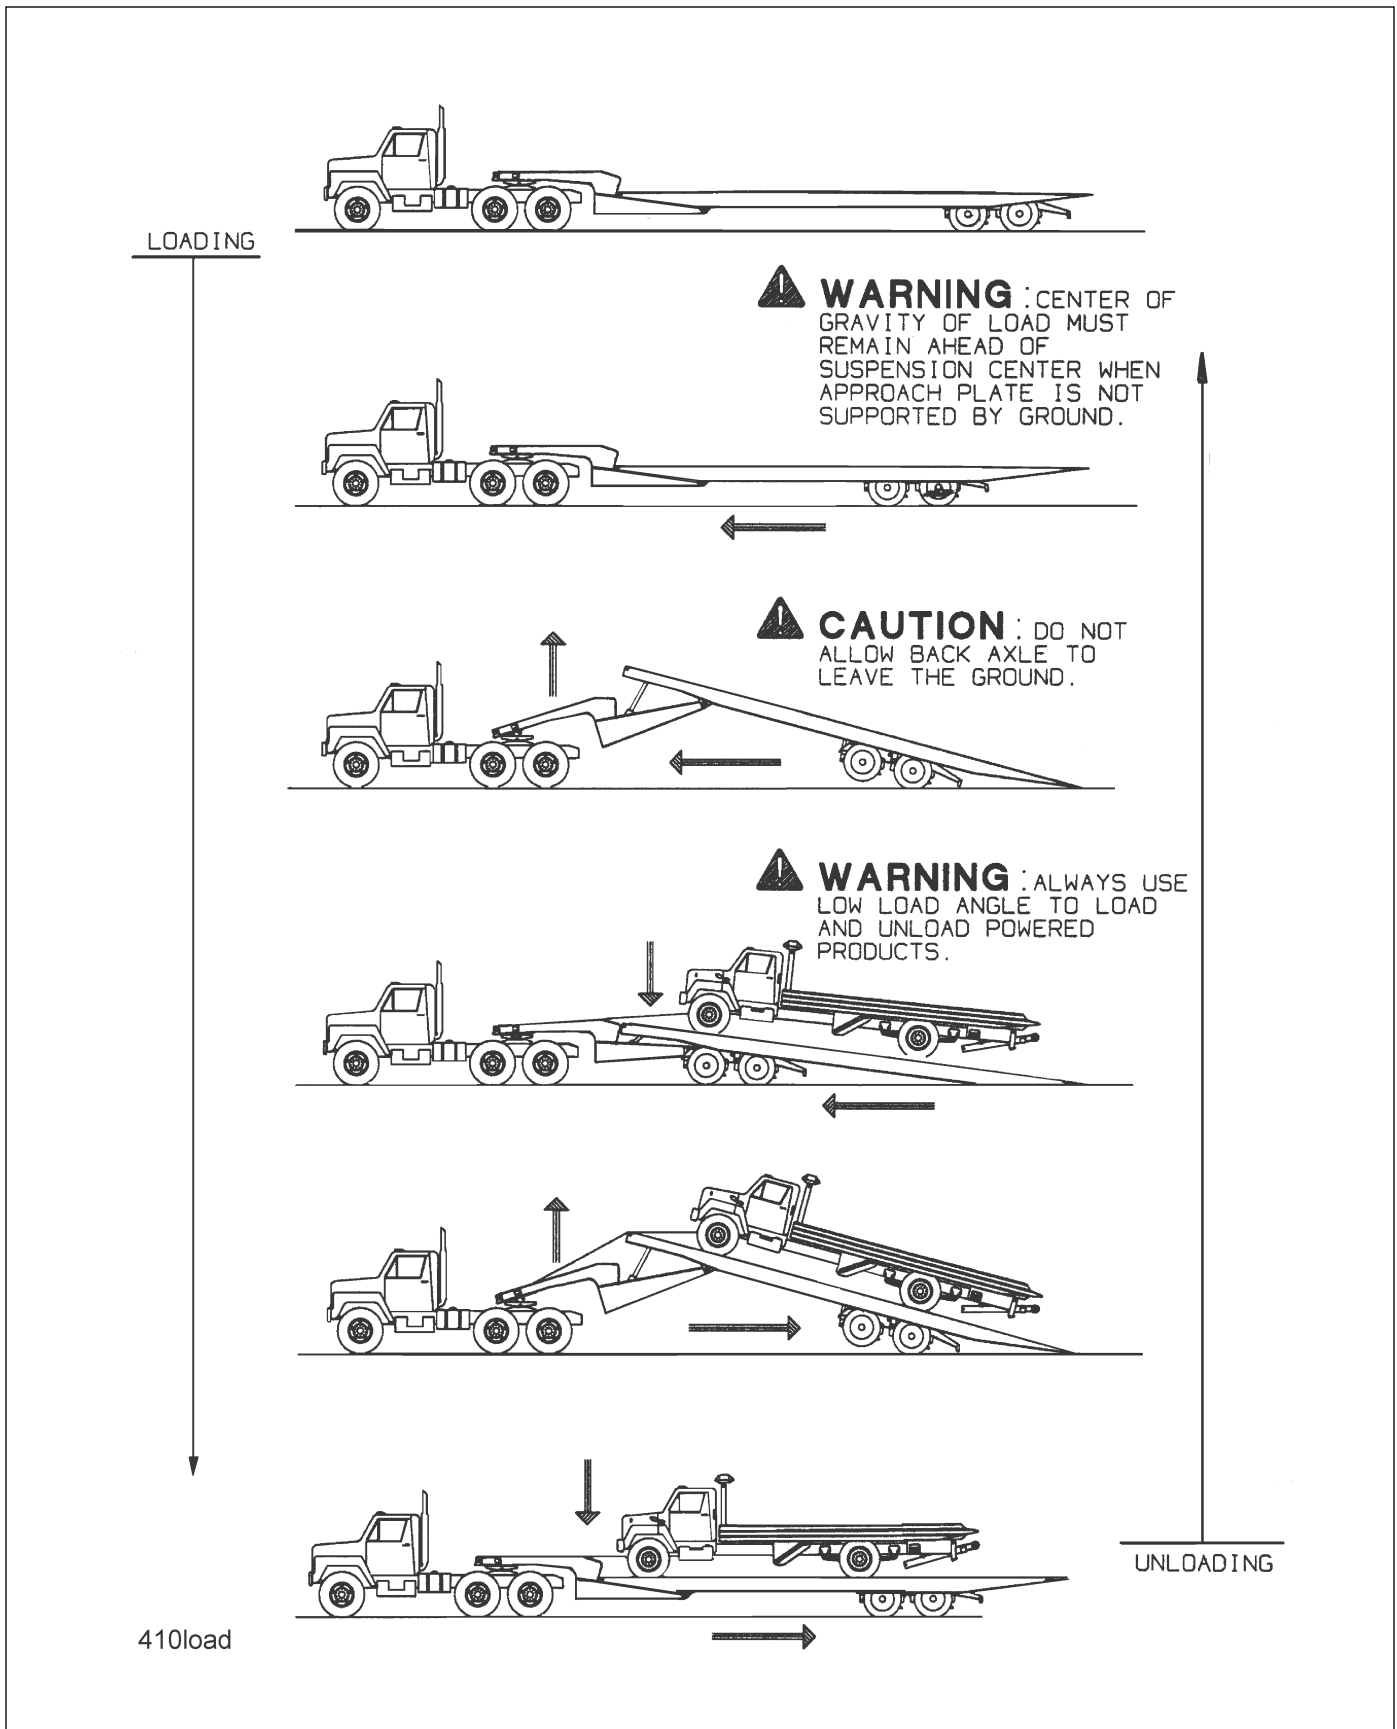

Figure 3-7: Steps for Loading and Unloading
2. Park the tractor/semitrailer in a straight line on level even surface. Set the tractor brakes and release the semitrailer brakes **(See Figure 3-7.)**
2. Park the tractor/semitrailer in a straight line on a level even surface (**See Figure 3-7.**) Set the tractor brakes and release the semitrailer brakes.